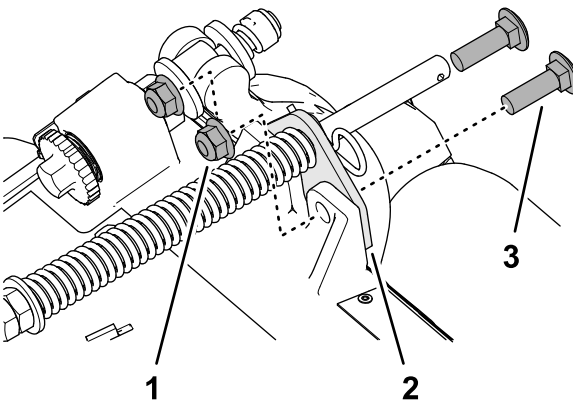

**Figure 17**
1. If the hairpin is installed in the rear hole of the compensation-spring rod—remove the hairpin and insert it in the hole next to the bracket (Figure 17).